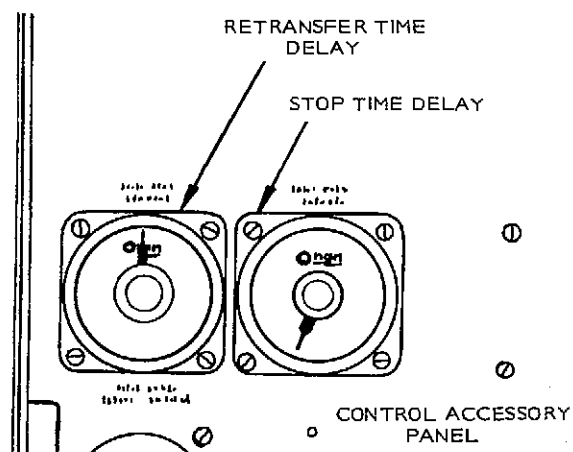

FIGURE 20. STOP AND RETRANSFER TIME DELAY RELAYS
2. Set the time delay by turning the adjustment knob in the center of the delay. See Figure 20.